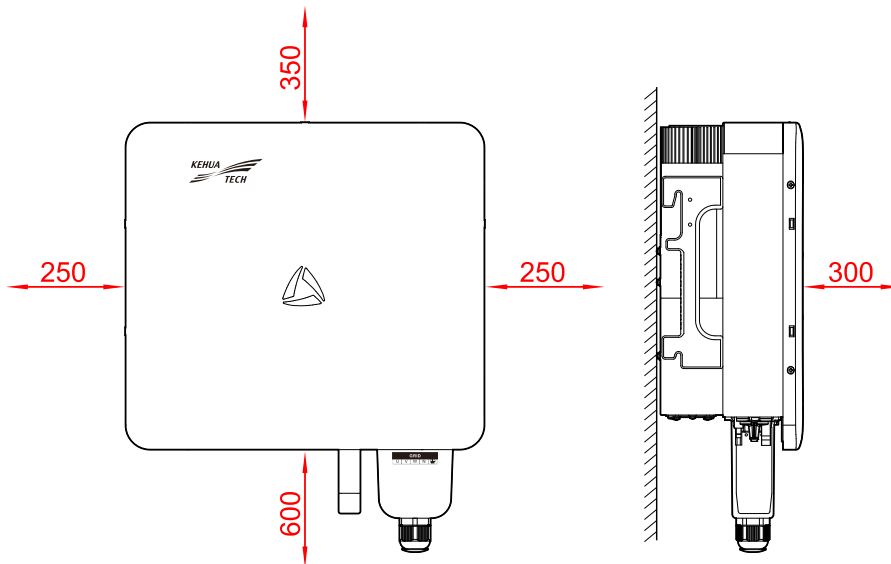
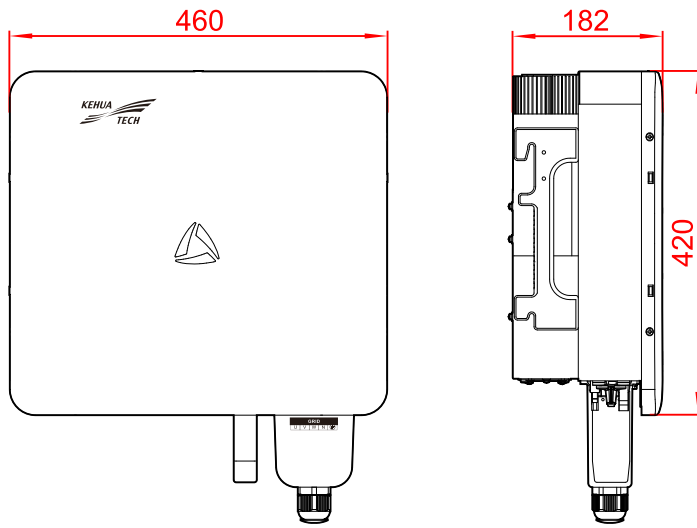

Figure3-3 Installation clearance (unit: mm)
Figure3-6 Size (unit: mm)
Keep a clearance of at least 300mm from the front of the inverter to other objects, at least 250mm from the left side and right side of the inverter to other objects, at least 350mm from the top of the inverter to ceiling and at least 600mm from the bottom of the inverter to ground, which is good for heat dissipation or maintenance, as shown in Figure3-3.
- Step 1 Determine the installation site based on the inverter size (as shown in Figure3-6) and installation clearance (as shown in Figure3-3).